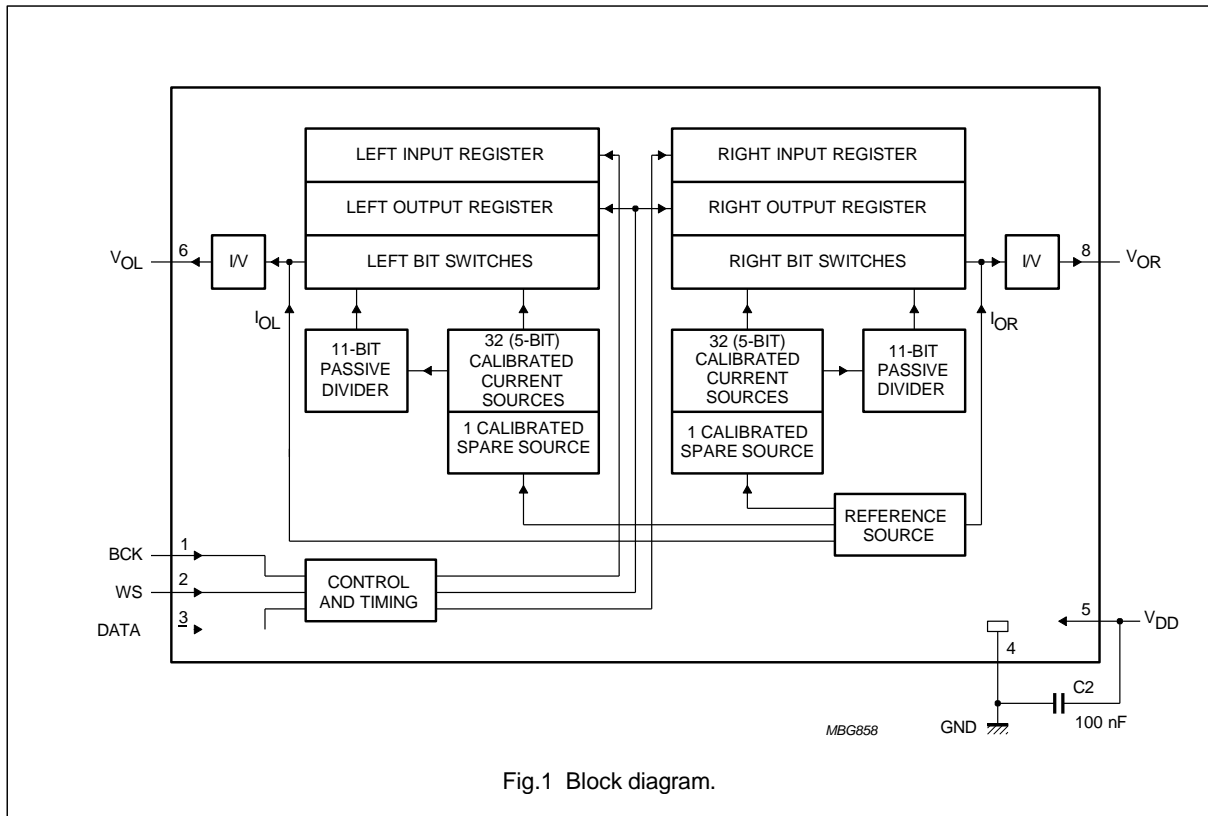

Fig.1 Block diagram.
The 32 current sources and the spare current source of the HT1311A; AT are continuously calibrated (see Fig.1). The spare current source is included to allow continuous converter operation. The output of one calibrated source is connected to an 11-bit binary current divider consisting of 2048 transistors.
With a HIGH level on the word select input (WS), data is placed in the left input register and with a LOW level on the WS input, data is placed in the right input register (see Fig.1). The data in the input registers are simultaneously latched in the output registers which control the bit switches.
V_{DD} = 5 V; T_{amb} = 25 °C; measured in Fig.1; unless otherwise specified.